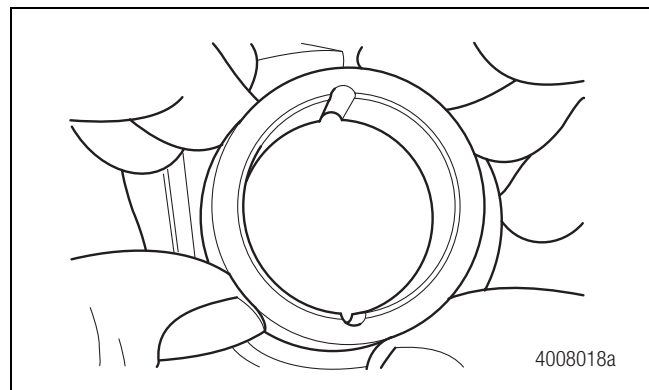

Figure 5.37
- Align the new oval bronze bushing with the markings made on the housing previously. Figure 5.37.